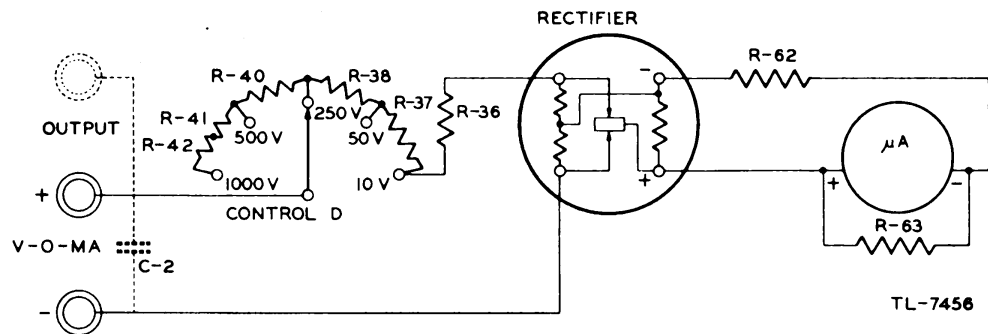

FIG. 15. MODEL 104 COMBINATION TESTER, SIMPLIFIED A-F AND A-C VOLTMETER CIRCUIT
b. *Combination Tester as A-C Voltmeter (fig. 15).* When **Control D** is set at any a-c voltage range the proper multiplier resistors are put in series with the rectifier. The type-H rectifier changes the alternating current to direct current so the d-c meter (M-3) can indicate the voltage applied to the rectifier through the multiplier resistors.
f. *Combination Tester as A-F Output Meter.* The various parts function the same as in the a-c voltage tests. However, for a-f voltage measurements, capacitor (C-2) is placed in series with the OUTPUT jack as shown by the dotted lines in figure 15.